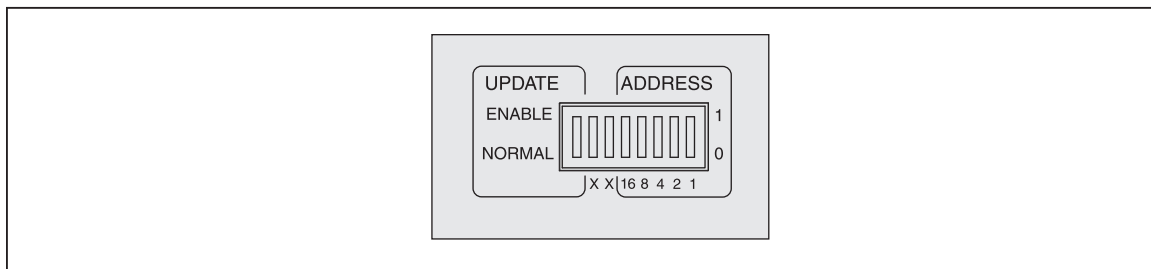

Figure 3-1. IEEE Bus Address Switches
The address that the product responds to on the IEEE 488.1 bus is set by switches on the rear panel. See Figure 3-1. The right hand 5 of these switches are used to set the address. The right most switch (1) is the least significant bit, and switch 5 (16) is the most significant bit.